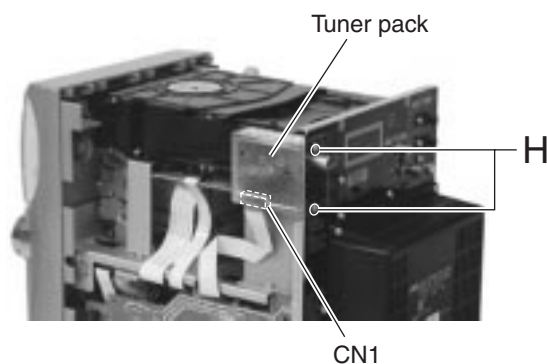

Fig.16
■ Removing the tuner pack (See Fig.16)